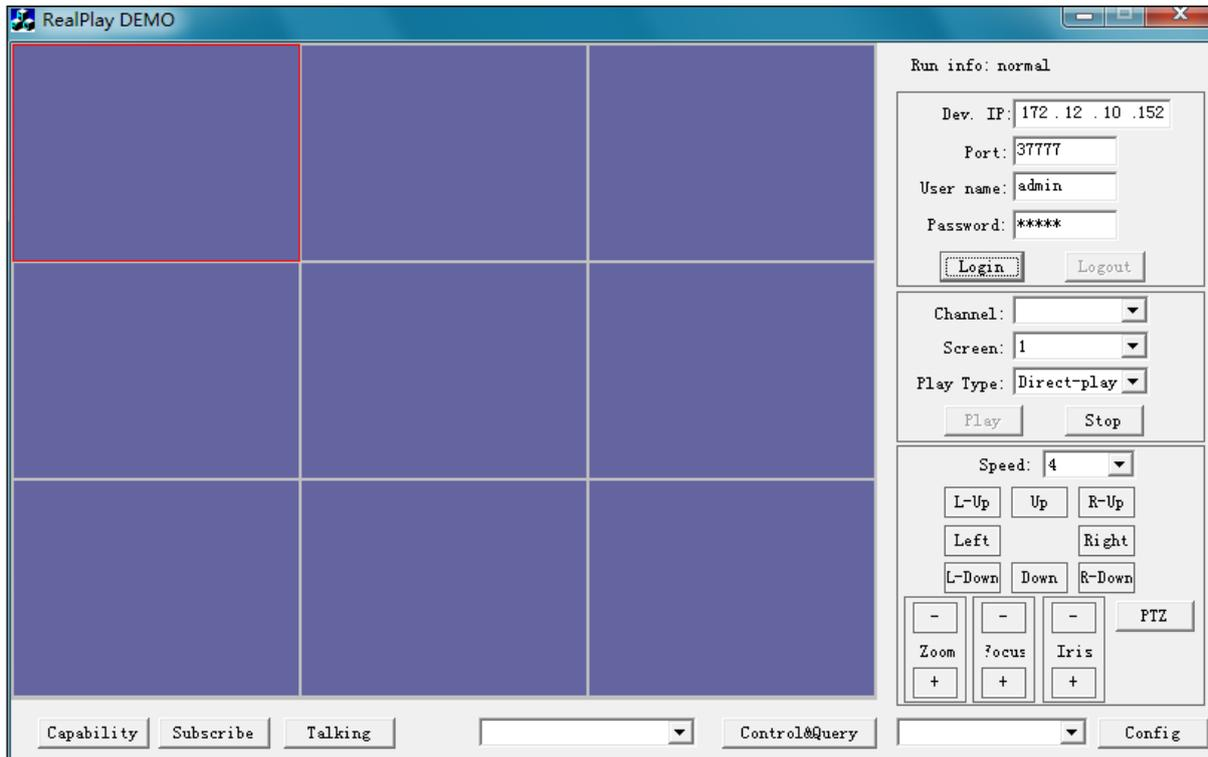

Figure 2- 1
Step 1. In "AlarmDeviceDemo\Bin" folder, double click "ClientDemo_d.exe" file. System enters net SDK client homepage, see Figure 2- 1.